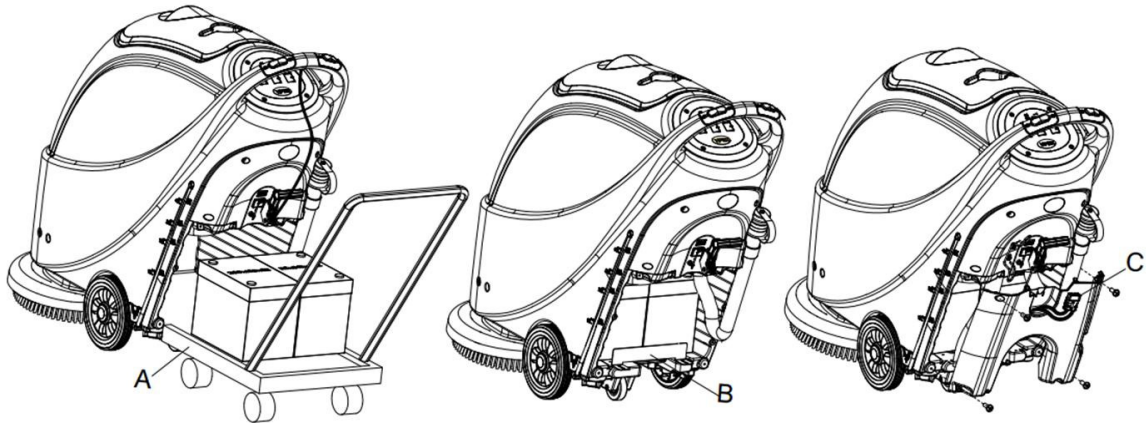

Figure 7
14. Install the battery with specially made battery installation tools (A, Figure 7). After the battery is installed, remove the battery installation tools, and install the battery fixation bracket (B, Figure 7).
15. Put the battery connector (C, Figure 7) through the hole on the top of the battery box cover, put the draining hose through the right hole of the battery box cover, fix the battery box cover with 4 screws, and then install the squeegee drawing cord, draining hose, and the squeegee successively.